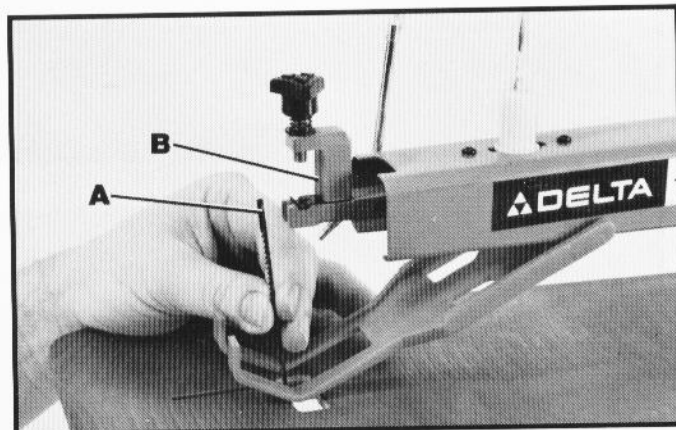

Fig. 29
3. Remove blade (A) Fig. 29, from upper rocker arm (B) and lower rocker arm.